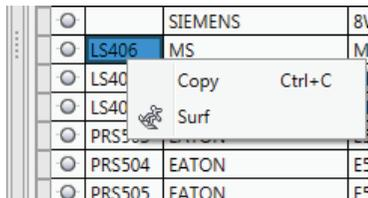

Figure 2-80 Shortcut menu displayed
- Scroll down in the **PROJECT MANAGER** and select **LS406** from the **Tag** column. Next, right-click on it; a shortcut menu is displayed, as shown in Figure 2-80.